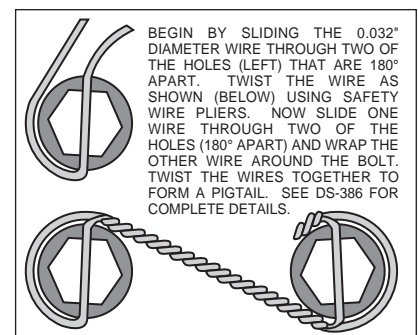

Figure 3. Safety Wire Diagram
- The caliper mount bracket assembly (1) should be installed first with clean, dry threads on the mounting bolts. Install the bracket from the rear side of the spindle by sliding the upper mounting bolt (4) through flat washer (5), and the upright into the upper bolt hole on the bracket. Attach the lower portion of the bracket by sliding bolt (6) through flat washer (7) and into the lower hole on the backside of the spindle. The bracket must tighten squarely against the inboard side of the spindle face plate/upright. Inspect for interference from casting irregularities, machining ridges, burrs, etc. If everything fits correctly, then remove the mounting bolts (4 and 6), coat threads with red *Loctite*® 271 and reinstall. Torque bolt (4) to 65 ft-lbs., and bolt (6) to 42 ft-lbs.
- Install wheel studs (8) into the hub (9). Torque to 77 ft-lb. **NOTE:** *There are two lug patterns of five holes each in the hub (5 x 4.50 and 5 x 4.75).* Make sure of the correct hole pattern for the wheel application before installing the studs into the hub.
- Pack the large inner bearing cone (10) with high temperature disc brake bearing grease (available from your local auto parts store) and install into the backside of the hub (9).
- Install the grease seal (11) into the backside of the hub (9).
- Pack the small outer bearing cone (17) with high temperature disc brake bearing grease and install into front side of the hub (9). Slide the hub assembly (9, 10, 11 and 17) onto the spindle. Secure using spindle washer (18), stock adjusting nut, and nut locking device. Adjust wheel bearing pre-load per Original Equipment Manufacturer (OEM) specifications.
- Install the O-ring (20) and the dust cap (19) into the hub (5). **NOTE:** *O-ring (20) friction will not allow cap (19) to unscrew on its own.*
- With the larger I.D. side of the rotor (12) facing away from the hat (13), bolt rotor (12) to hat (13) through the backside of the rotor using washers (14) and bolts (15). Using an alternating sequence, apply red *Loctite*® 271 to the threads and torque bolts to 155 in-lb. For an added measure of security, the bolts may be safety wired using standard 0.032 inch diameter stainless steel safety wire as shown in Figure 3. Please refer to Wilwood's data sheet DS-386 (available at www.wilwood.com/Pdf/DataSheets/ds386.pdf) for complete safety wire installation instructions..
- Slide the rotor/hat assembly over the studs (8) in the hub (9) taking care to align the small countersunk holes in the hat (13) with the small threaded holes in the hub (9). Install three flat head socket head screws (16) through the small holes in the hat (13) and torque to 85 in-lb. Check to be sure the hat seats squarely against the spindle.